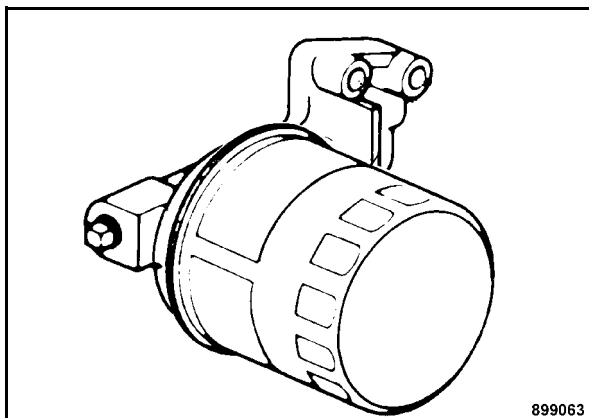

Fig. 79
- Loosen the engine oil filter cartridge (Fig. 79) with a suitable filter wrench and unscrew it.